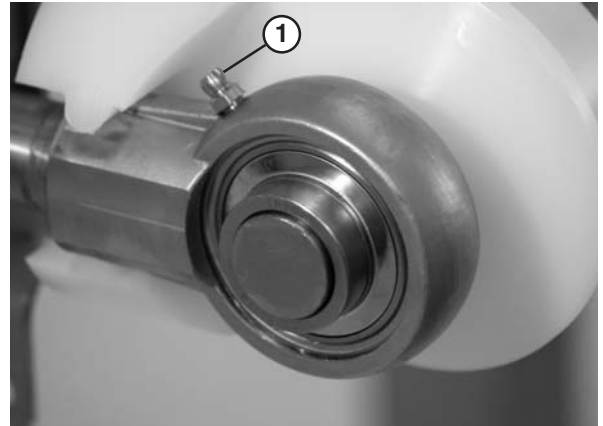

Figure 43
1. Add grease to the bearing using the zerk fitting (**Figure 43, item 1**) on the exterior of the bearing shaft assembly.